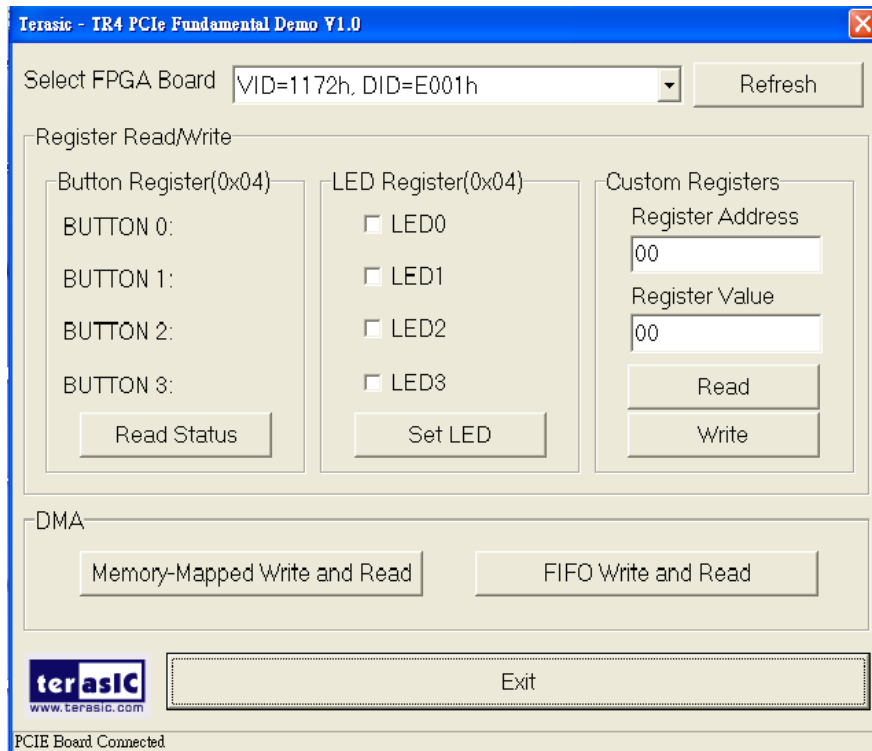

Figure 6-13 PCIe Fundamental Demo GUI
- Launch the demo program *PCIe_Fundamental_Demo.exe* shown in Figure 6-13.